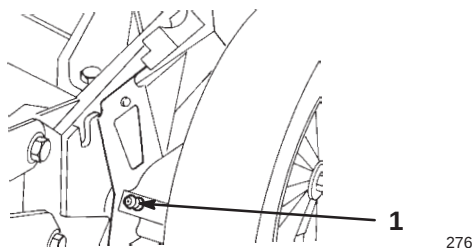

Figure 23
5. Wipe the grease fittings with a clean rag (Fig. 23).